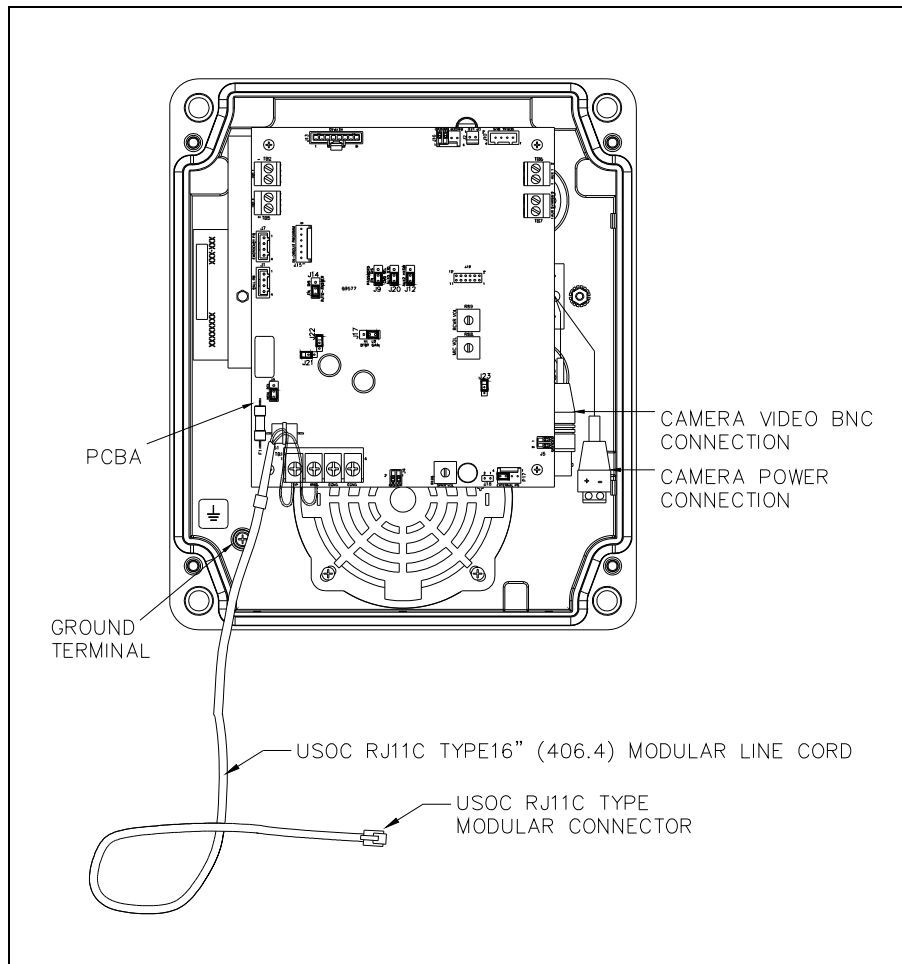
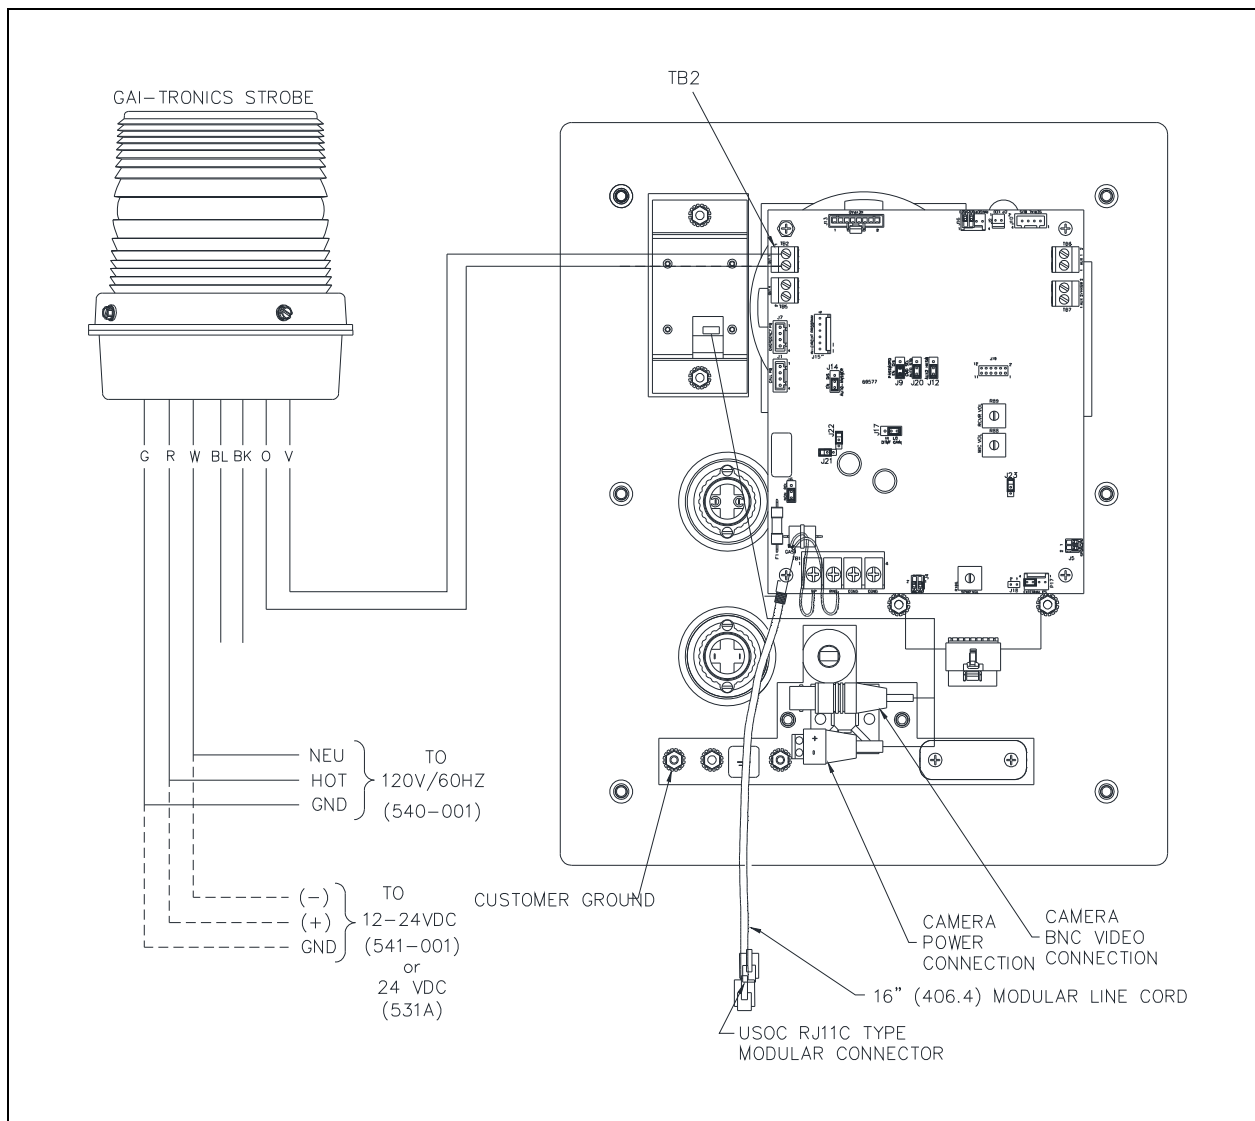

Figure 7. Model 393-001CAM and 394AL-001CAM Component Locations
Figure 11. (Model 398-001CAM is shown as an example)
8. Connect the video cable to the video BNC connection (see Figure 7 and Figure 11).
9. Connect 12 V dc power using the screw terminal connector (see Figure 7 and Figure 11).
6. Connect the video cable to the video BNC connection (see Figure 7 and Figure 11).
7. Connect 12 V dc power using the screw terminal connector (see Figure 7 and Figure 11).